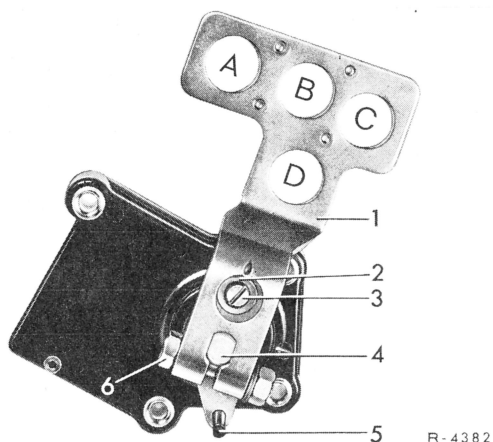

Fig. 1
Disconnect selector rod and move range selector lever (1) on transmission into position "N". Tighten clamping bolt (6) prior to making adjustments. (Fig. 1).